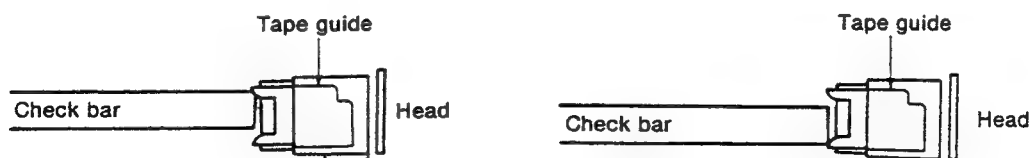

Fig. 4
- \* If the check bar comes in contact with the tape guide, make adjustments as follows. (See Fig. 4.)